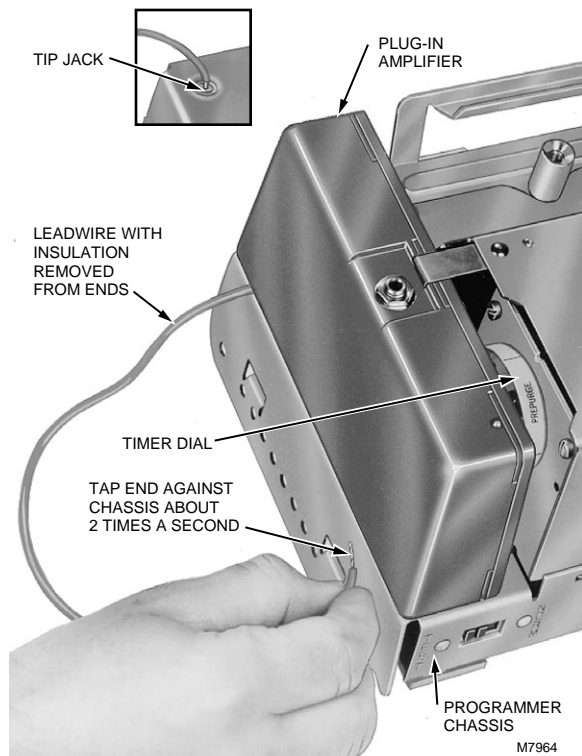

Fig. 14. Simulating flame for an infrared amplifier.
- (1) Complete step 7b. above.
- (2) Remove the plug-in infrared amplifier.
- (3) Remove 3/4 in. (19.1 mm) of insulation from each end of a 10 in. (254.0 mm) length of insulated wire. Plug one end of this wire into the tip jack on the front of the programmer chassis (Fig. 14).
- (4) Reinstall the plug-in amplifier and close the master switch. Wait until the timer stops.
- (5) Tap the free end of the wire against the programmer chassis at a rapid frequency (about two times a second) to simulate a flame. Relay 2K should pull in and stay in while a flame is simulated.